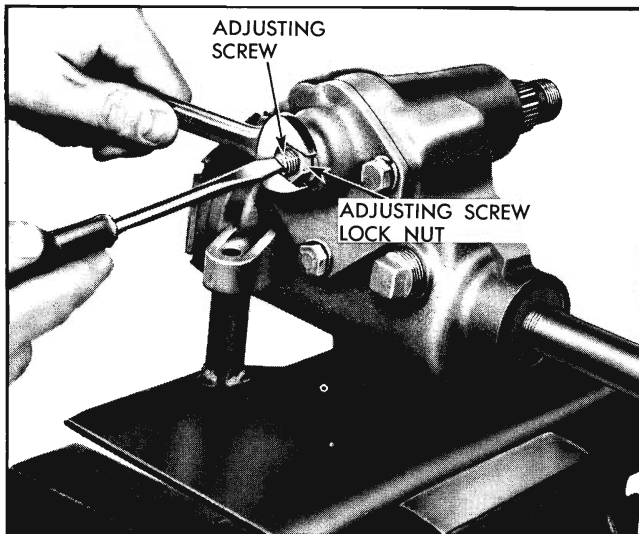

Fig. 9-17 Adjusting Pitman and Ball Nut Backlash
5. Loosen pitman shaft adjusting screw lock nut and back off adjusting screw a few turns (Fig. 9-17).